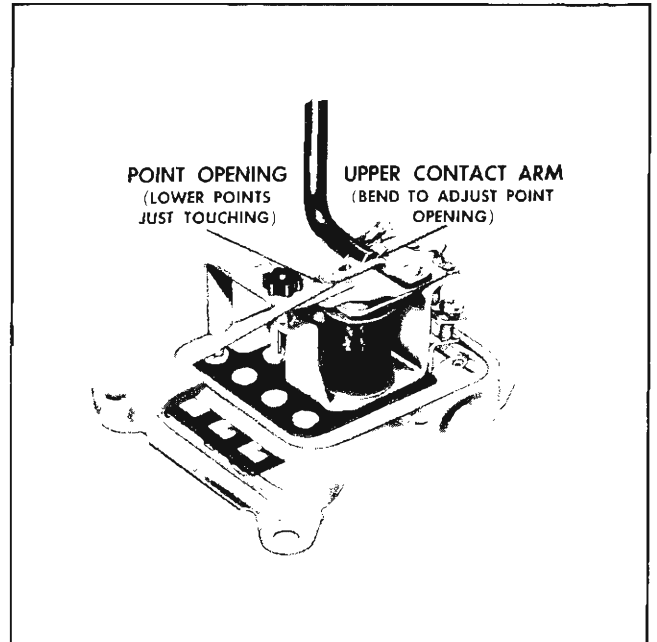

Fig. 11-35 Adjusting Point Opening
**Point Opening:** With the lower contacts touching, measure the point opening between the upper contacts as shown in Fig. 11-35. If necessary, adjust to .015" by bending the upper contact arm, being careful not to bend hinge.